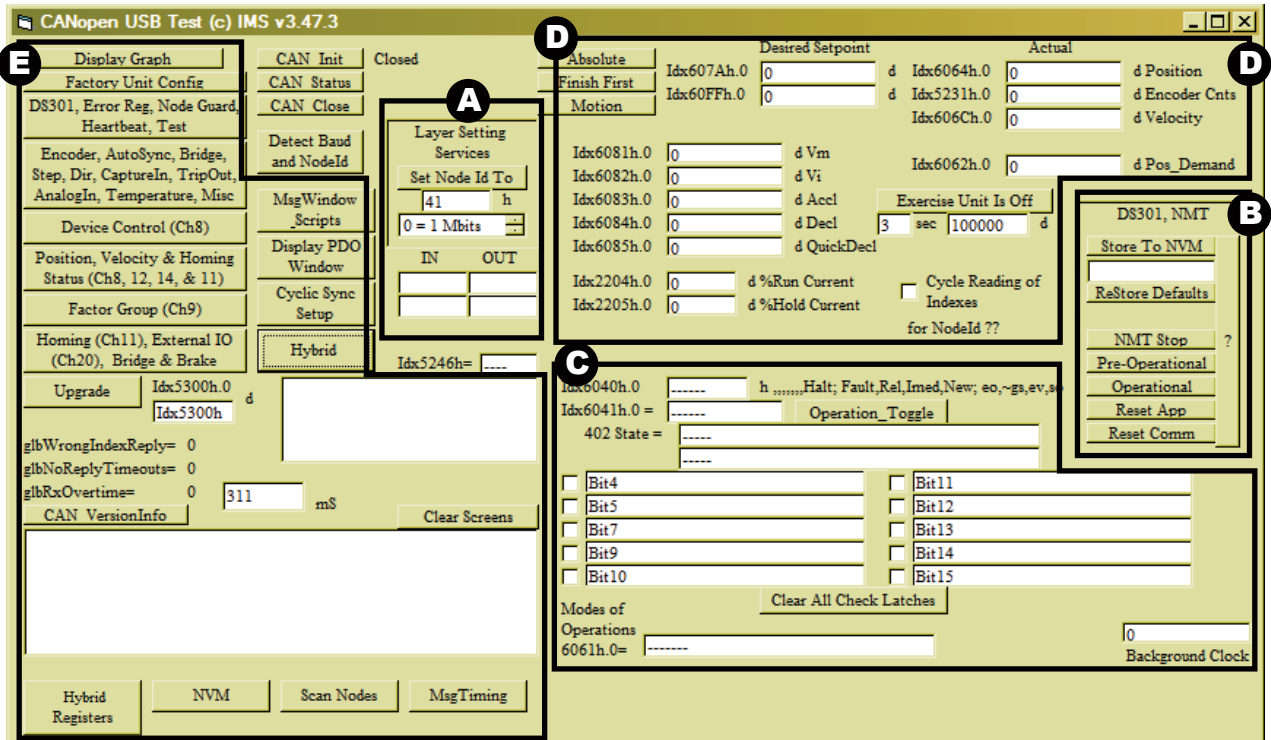

Figure 9.1: CANopen Tester main screen layout.
- Block (A)** The block labeled (A) in Figure 9.1 uses LSS (Layer Setting Services) to configure the Node ID and BAUD rate. The defaults are as shown, Node ID = 41h and BAUD = 1 Mbits
- Block (B)** Contains switches for controlling the NMT protocol for switching the device through the various stages of the state machine, resetting the application, communications, restoring defaults.
- Block (C)** DS-402 state specific, Control and Status word specific operation, such as selecting the operation mode, reading the check latches.
- Block (D)** Profile position and profile velocity direct motion command and parameter entry and configuration.
- Block (E)** Allows access to dialogs fitting specific DSP-402 and mode specific and manufacturer specific objects as well as SDO and PDO entry and receipt.